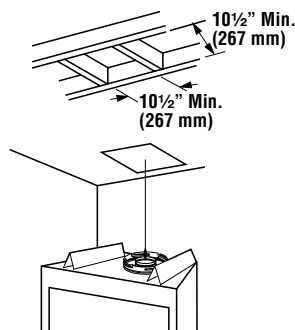

Figure 17
A. Frame ceiling opening - Use a plumb line from the ceiling above the appliance to locate center of the vertical run. Cut and/or frame an opening, 10 1/2" x 10 1/2" (267 mm x 267 mm) inside dimensions, about this center mark (**Figure 17**).